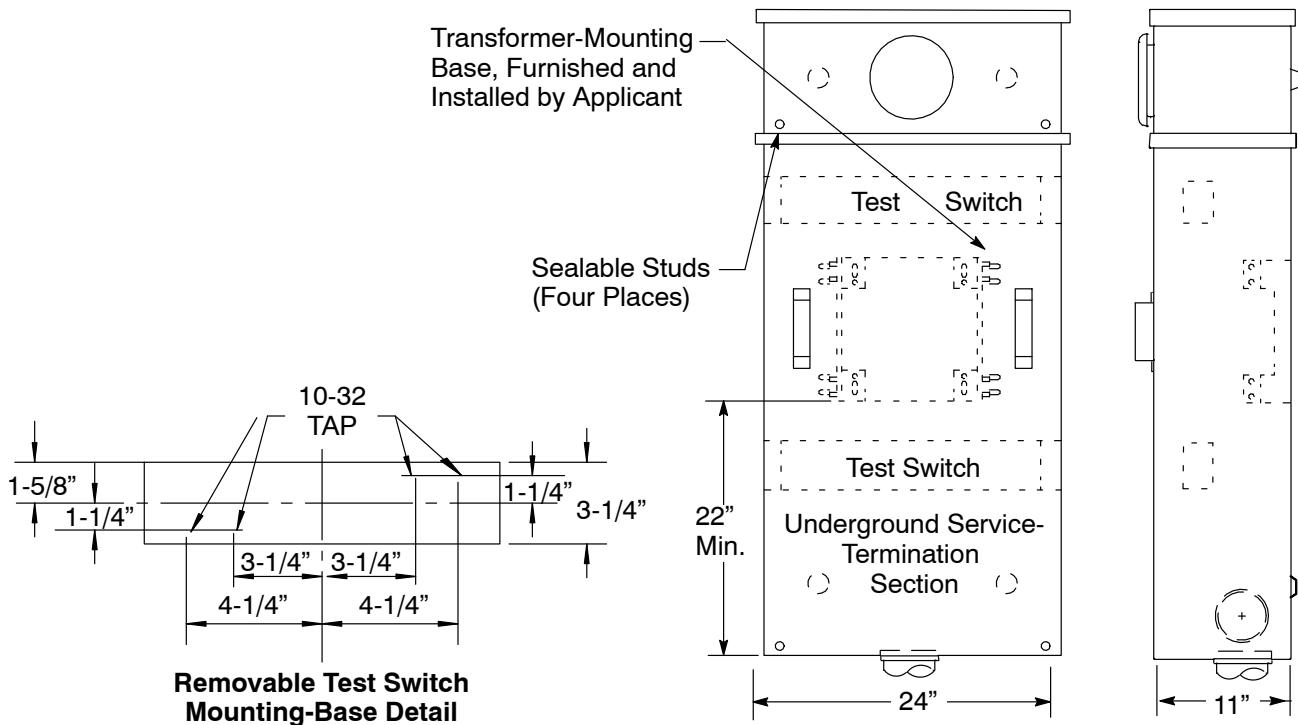

Figure 9-6
- A. All securing screws represented in Figure 9-6, “Combination Meter, CT, and Underground Service-Termination Cabinet (Single Phase, 120/240 Volts, Over 320 Amperes),” located below, are captive. All panels and covers must be sealable.
- A. The removable test-switch perch, shown in Figure 9-7, “Overhead-Fed Combination Meter and CT Cabinet (401 Amperes and Above, Single Phase),” shown below, is drilled and tapped in the same way as the removable plate illustrated in Figure 9-6, “Combination Meter, CT, and Underground Service-Termination Cabinet (Single Phase, 120/240 Volts, Over 320 Amperes),” on Page 9-7.